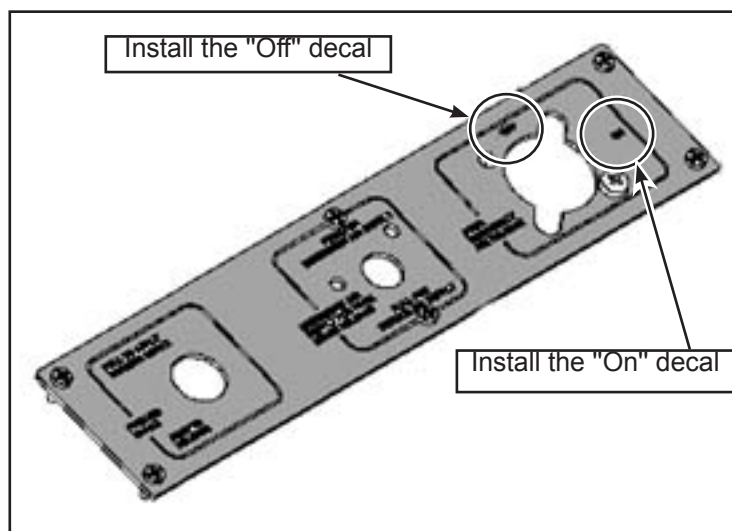

Figure 8 - Install the "On" and "Off" Decals
- 1.9. Install the "On" and "Off" decals on the panel (see Figure 8).